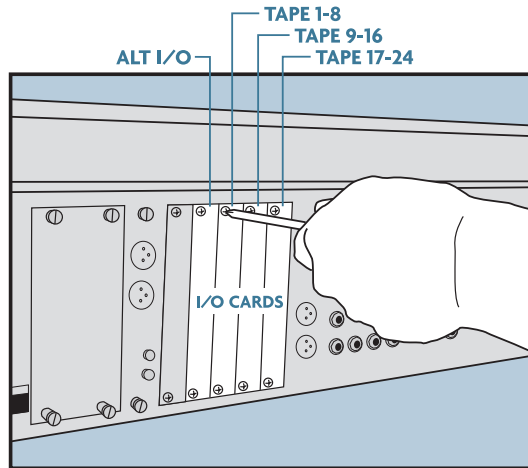

Figure F-5. Remove Cover Plate for Tape I/O Card
1. Using a #2 Phillips screwdriver, unscrew the blank cover plate corresponding to the I/O card slot you want to fill. See Figure F-5.